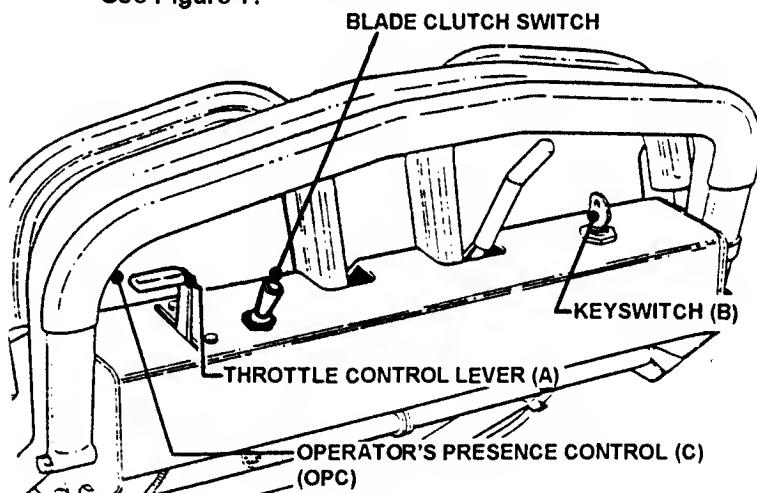

FIGURE 7
- 4a. LOOP HANDLE -Pull Blade Clutch Switch backward (toward operator) to the OFF position. See Figure 7.
9. Place Transmission Shift Lever in No. 1 position (first gear). See Figure 7.
- 10a. **LOOP HANDLE** - Push Blade Clutch Switch/Lever to ON position. See Figure 7.